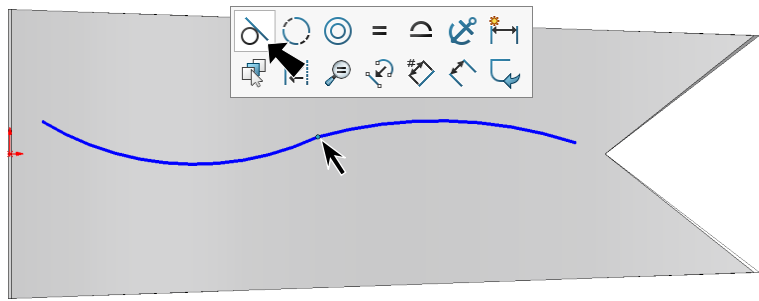

Fig. 26
Step 7. Click **endpoint between arcs** and click **Make Tangent** on the context toolbar, Fig. 26.